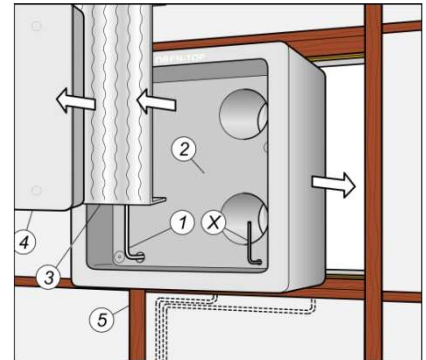

Abb. 3
- Remove protective cover (4) and cardboard (3)
- Pull the power cable (1) and if necessary the control wire (X) through the mounting box (2)
- Insert the mounting box (2) into the recess (5)
- Insert the power cable (1) and if necessary the control wire (X) into the installation space for the unit (2). (Abb. 3)